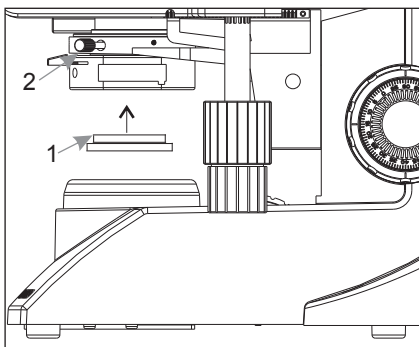

Fig. 10
6. Replace the blue filter with D Lens. Refer figure 10.